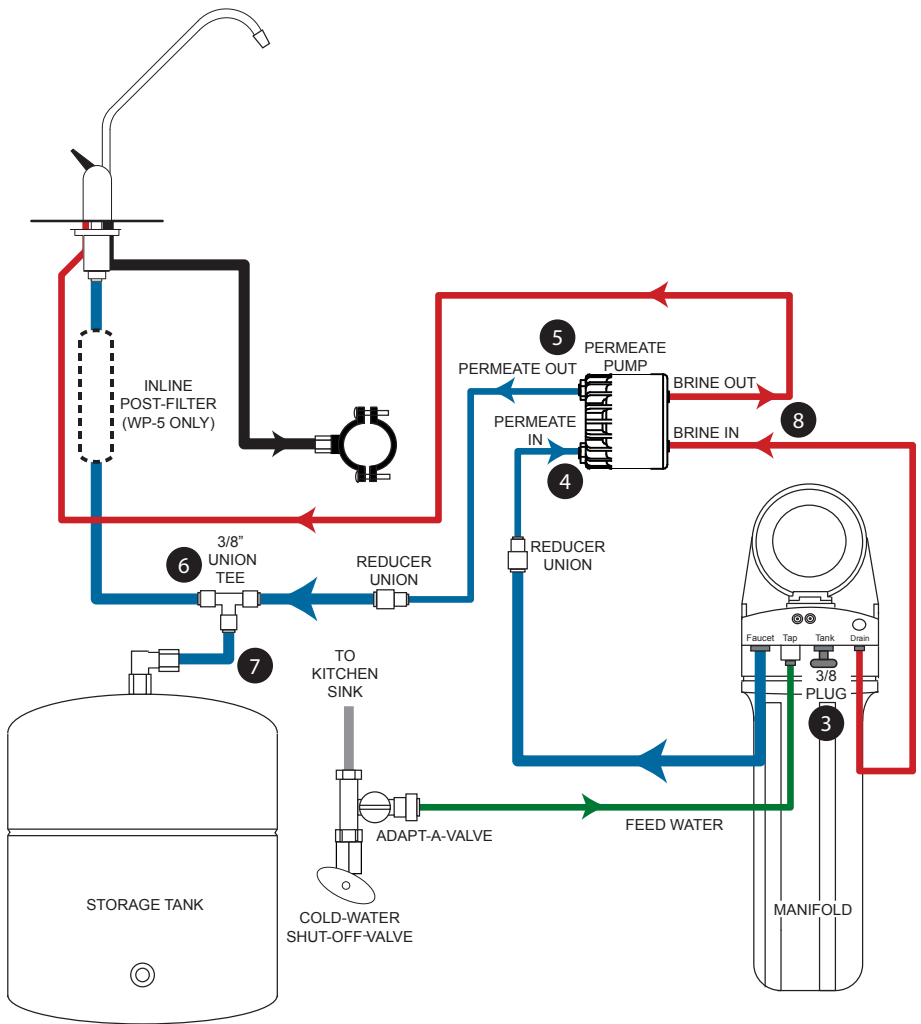

Figure 2: Manifold System after installation of Permeate Pump
- Step 9 - Make sure your installation matches the diagram shown in Figure 2